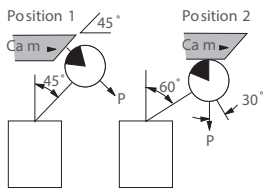

Figure 1A: Cam design for speeds up to 50 fpm
- The cam in Figure 1A is satisfactory for speeds up to 50 fpm (15.2 mpm)